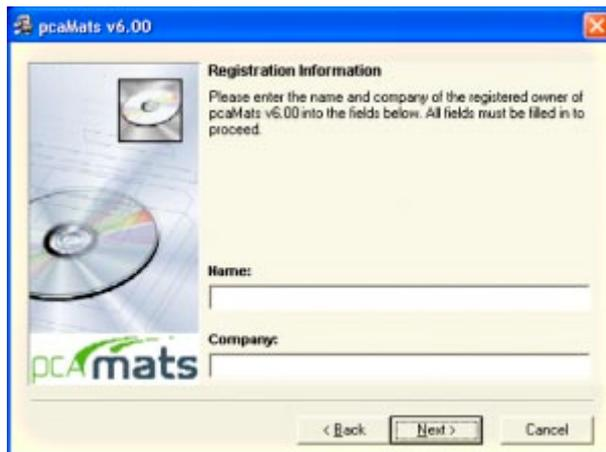

Figure 1-6 — Registration Information
- The next step is to enter the registration information as shown in Figure 1-6. Enter your name and your company name in the corresponding text boxes and press the NEXT button to go to the next step.